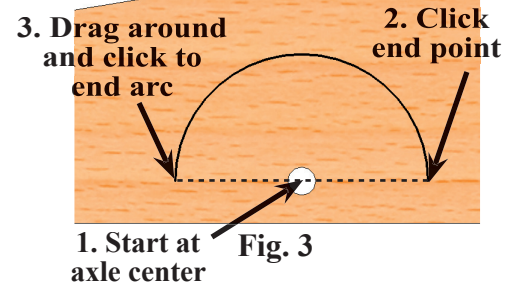

Fig. 3
- Step 5. Click in the center of the axle hole to start the arc and move the cursor to the right. Click to place the first end point, then move cursor counterclockwise 180 degrees. Click to place the second end point, **Fig. 3**.